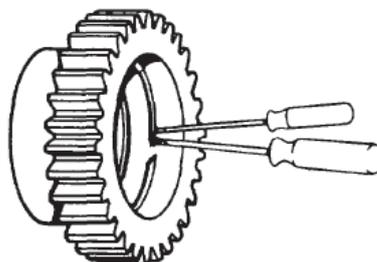

Figure 15 Removing Snap Ring
- g. Remove the snap ring from the gear if damage is evident (Figure 15).